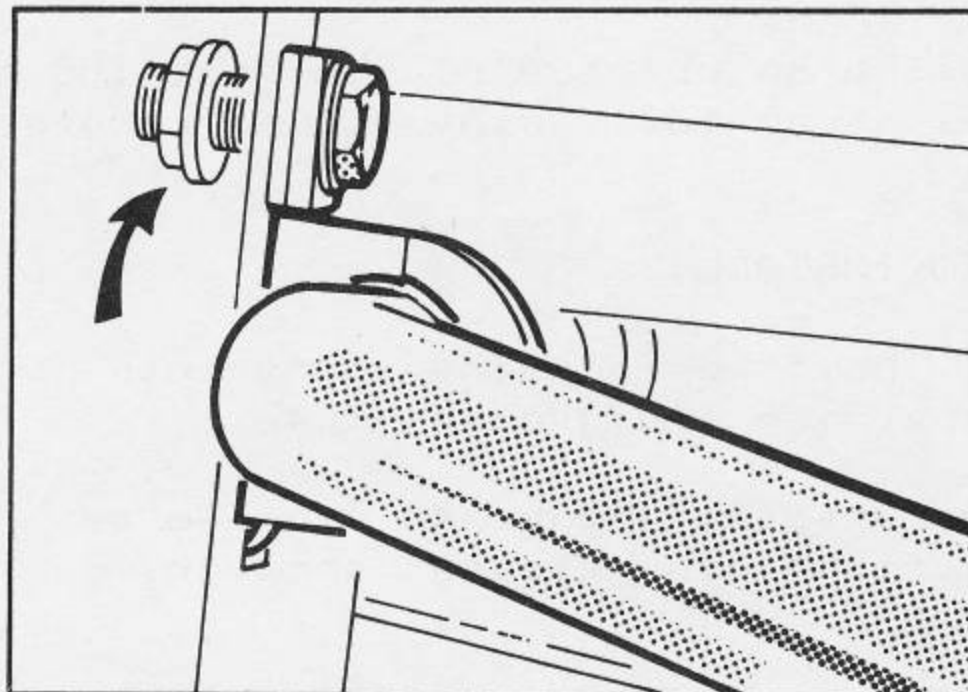

Fig. 48
3. Remove the anti – roll bar clamp mounting bolts from the chassis. Fig.48